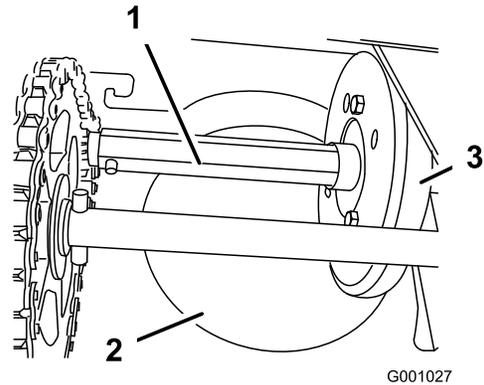

Figure 54
Lightly lubricate the hex shaft yearly with automotive engine oil (Figure 54).
**Important:** Do not get oil on the rubber wheel or the aluminum friction drive plate because the traction drive will slip (Figure 54).